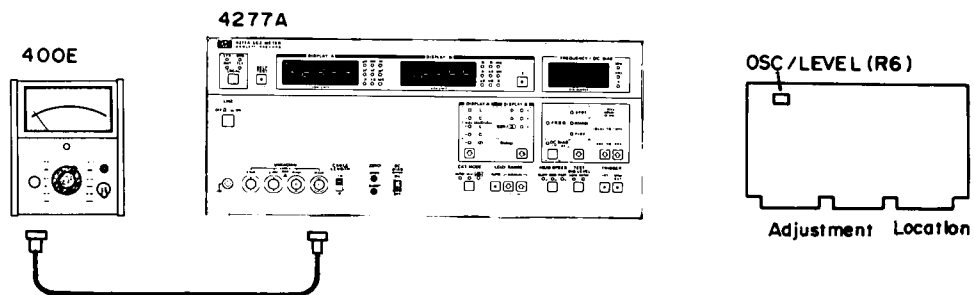

Figure 5-3. Test Signal Level Adjustment Setup.
1. Connect the 400E to the UNKNOWN HCUR terminal of the 4277A using a BNC (m) to BNC (m) cable as shown in Figure 5-3.